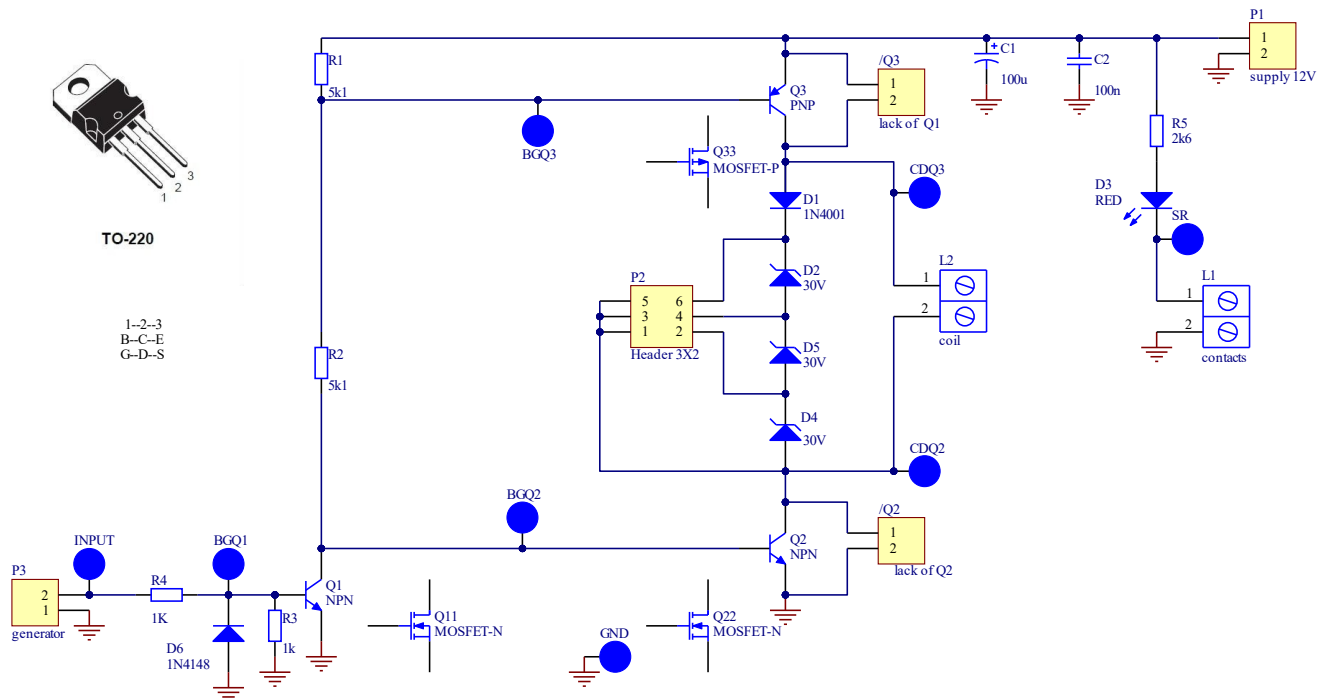
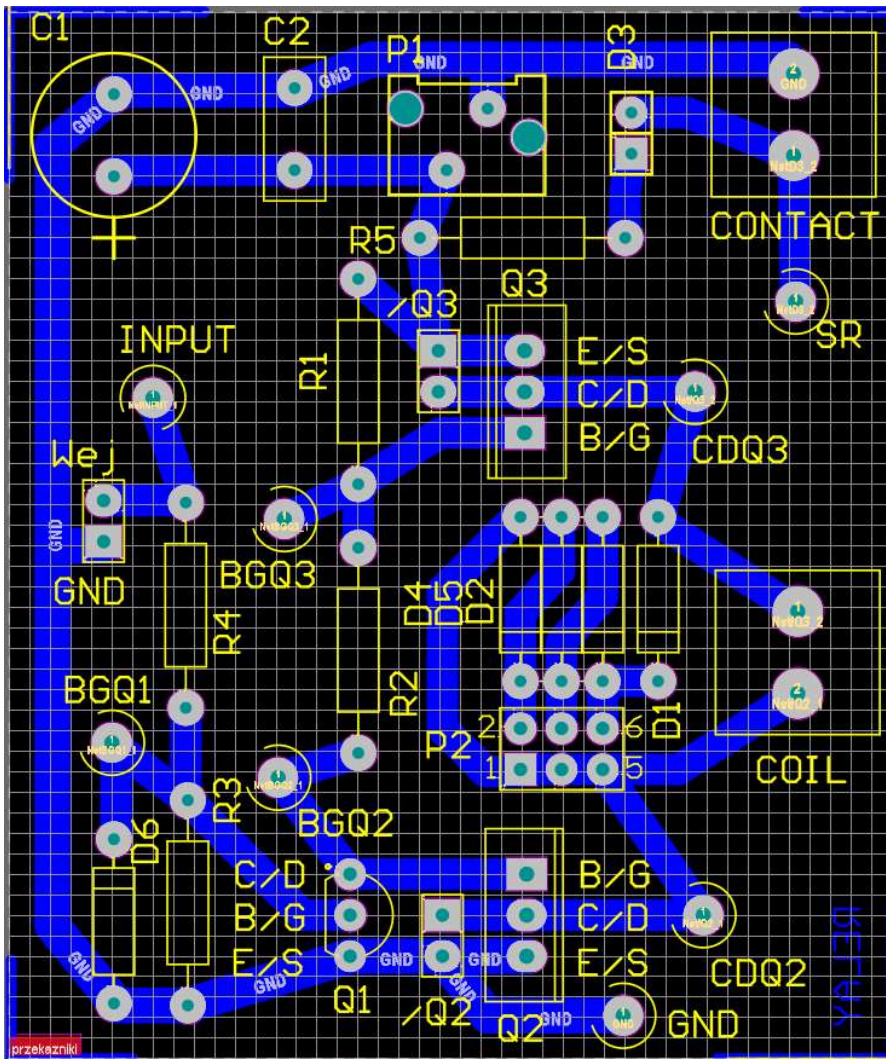
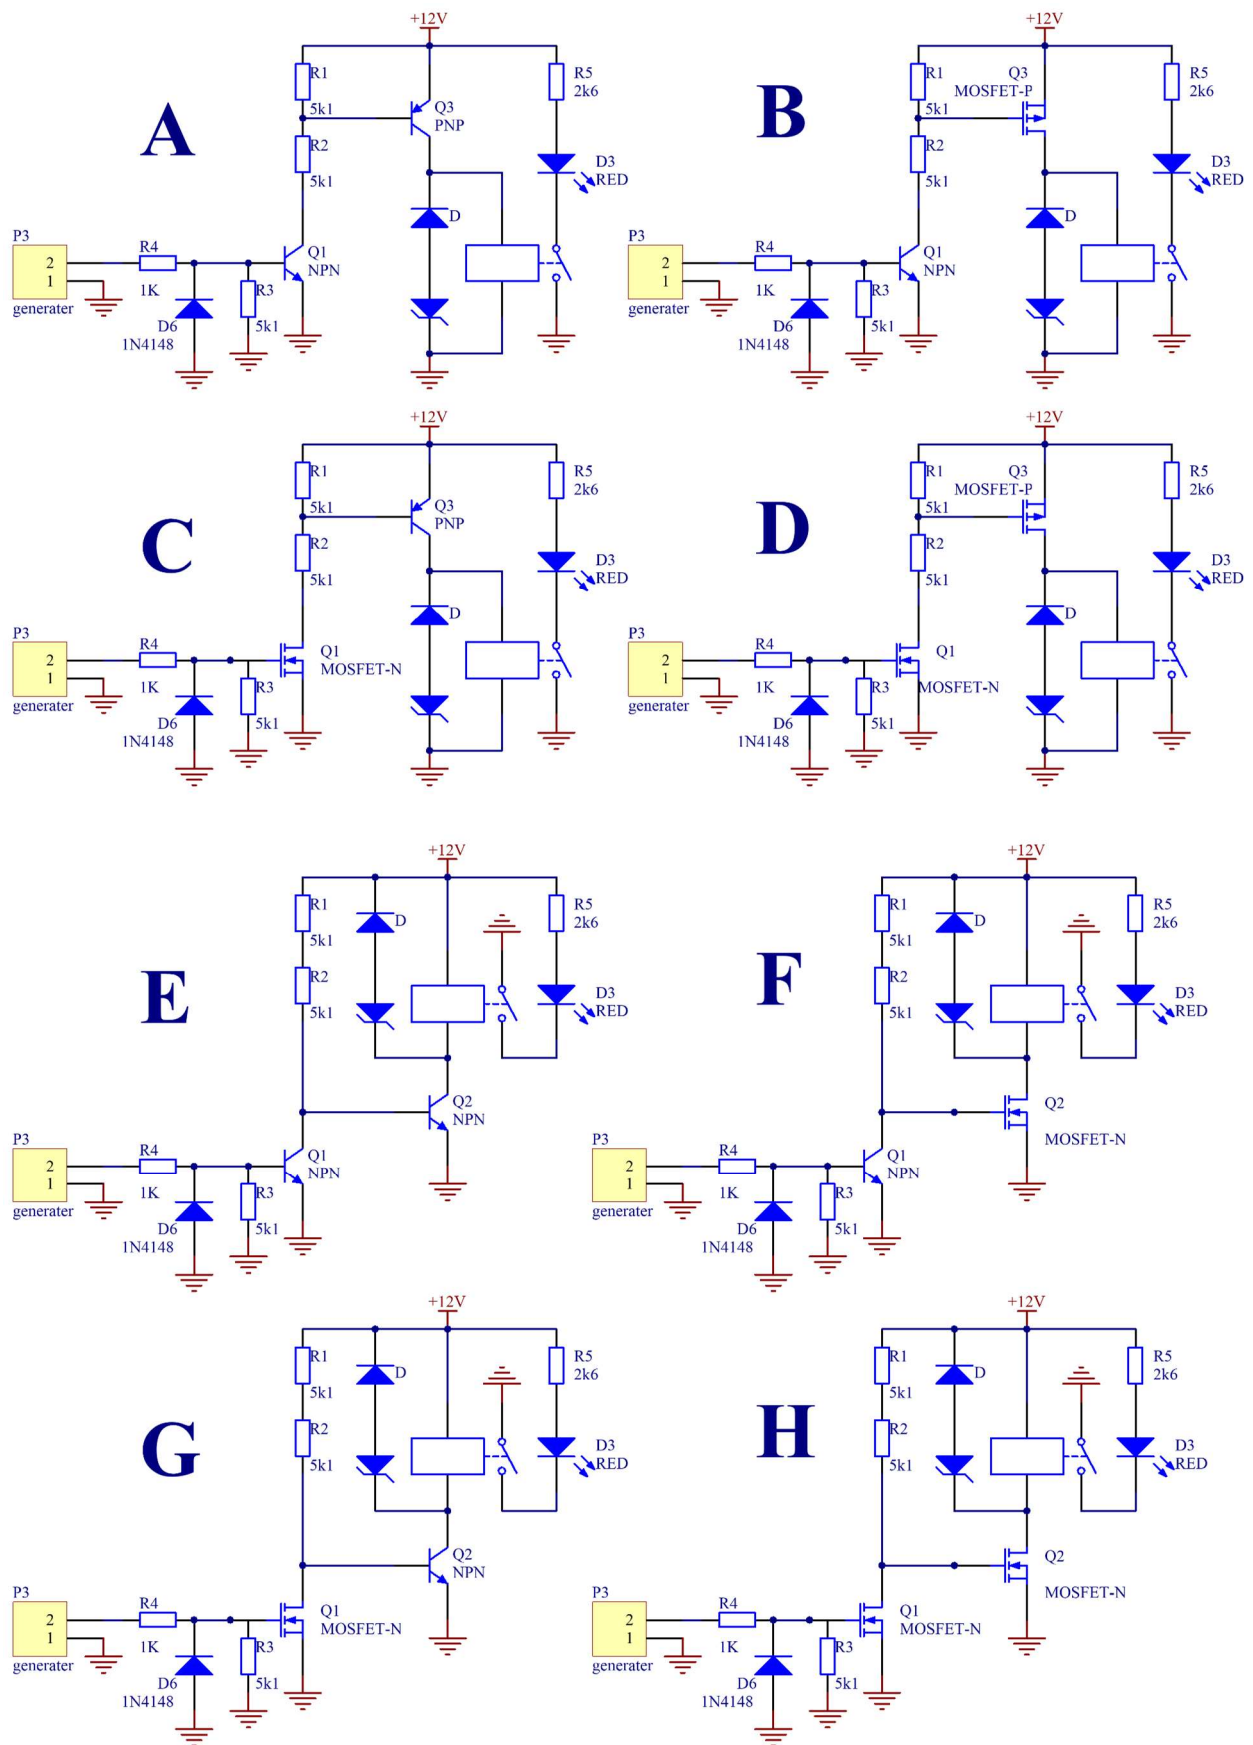

Fig. 1. Schematic of investigated circuit. Transistors Q1, Q2, and Q3 can be BJT or MOSFET.
Fig. 2. PCB of investigated circuit.
Fig. 3. 8 possible circuits under investigation.
- PCB with relay driving circuits (Fig.1, Fig.2).
The PCB is an universal circuits possible to construct one of driving circuits shown in Fig.3. Each of transistor can be BJT or MOSFET and not used transistor may be replaced by a jumper. Choosing one of jumper P3 different maximum voltage over the coil during switching off relay can be chosen. These voltages are 0.7V (jumper 5-6), 30V(3-4), 60V (5-6)and 90V (no jumper).
Consider, how using PCB from Fig.1 and 2 can be constructed each of driving circuits from Fig.3.
6. Analyzing the circuit of Fig.1, suggest a driving circuits of 12V load (relay, motor, bulb; driving transistor – NPN, PNP, MOSFET-N, MOSFET-P), that can be actuated from microcontroller supplied with 2V ?
All of measurements should be done for at least two different types of relays and two different types of circuit (from A to H – Fig.3)